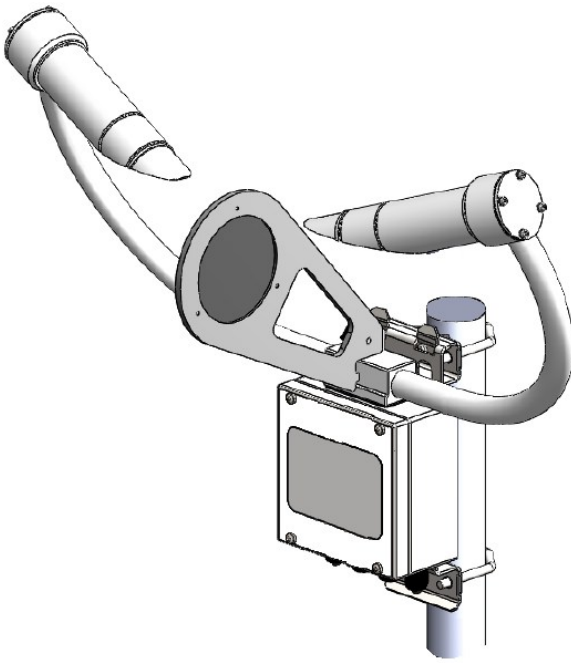

Figure 8-2. Mounting calibration disk
9. Place the sensor calibrator into the volume by fastening it to the central mounting point (see Figure 8-2 [p. 44]).